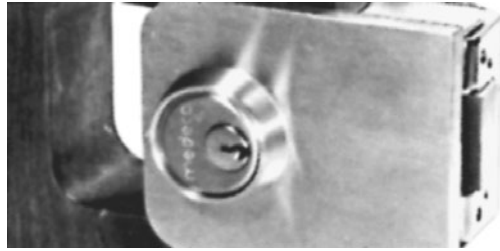

Figure 13.39 Slide lock into cutout.
10. With the lock assembled and the cover in place, slide the unit into the door cutout (Fig. 13.39). Position it so that the longest escutcheon is flush with the high edge of the door bevel.